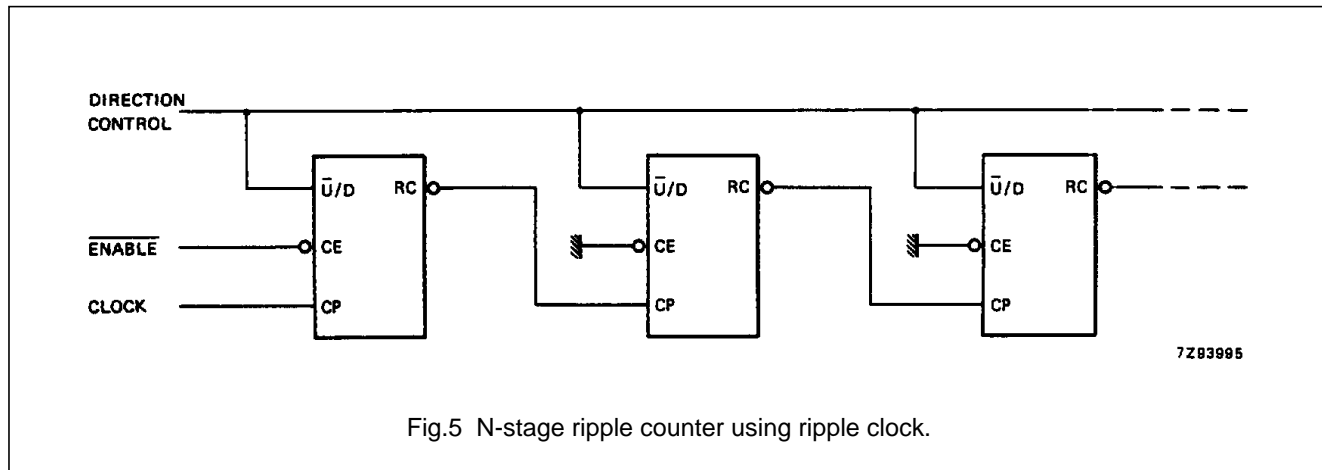
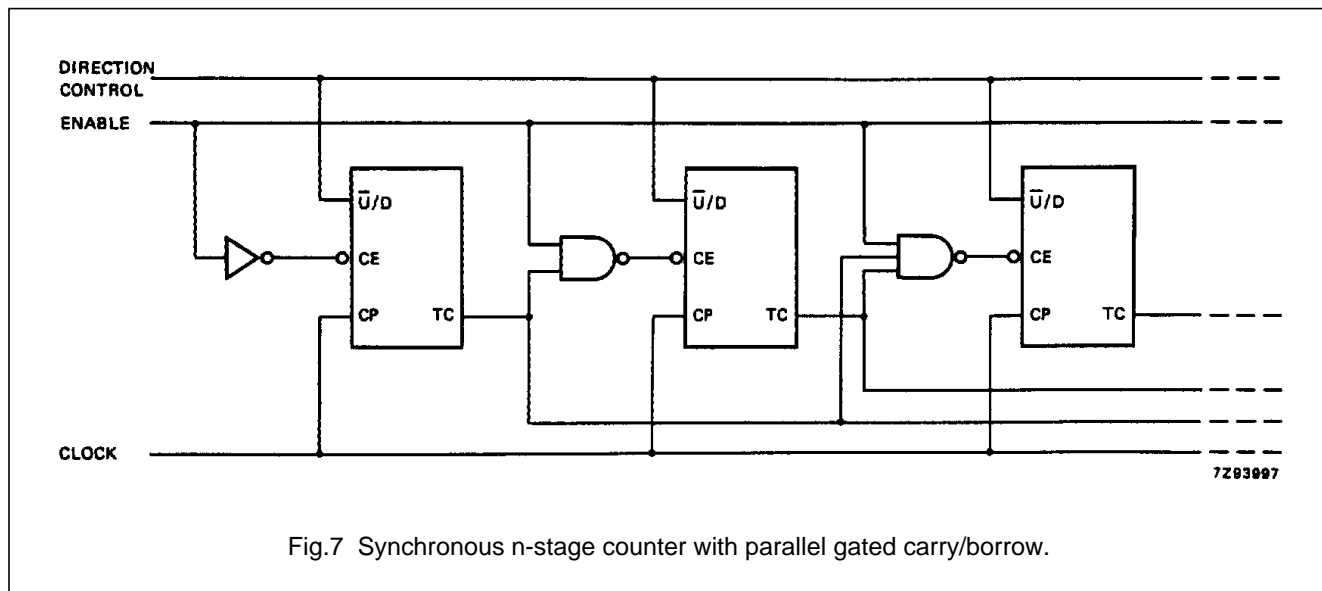

Fig.5 N-stage ripple counter using ripple clock.
Fig.7 Synchronous n-stage counter with parallel gated carry/borrow.
Overflow/underflow indications are provided by two types of outputs, the terminal count (TC) and ripple clock ( $\overline{RC}$ ). The TC output is normally LOW and goes HIGH when a circuit reaches zero in the count-down mode or reaches "15" in the count-up-mode. The TC output will remain HIGH until a state change occurs, either by counting or presetting, or until  $\overline{U/D}$  is changed. Do not use the TC output as a clock signal because it is subject to decoding spikes. The TC signal is used internally to enable the  $\overline{RC}$  output. When TC is HIGH and  $\overline{CE}$  is LOW, the  $\overline{RC}$  output follows the clock pulse (CP). This feature simplifies the design of multistage counters as shown in Figs 5 and 6.
In Fig.5, each  $\overline{RC}$  output is used as the clock input to the next higher stage. It is only necessary to inhibit the first stage to prevent counting in all stages, since a HIGH on  $\overline{CE}$  inhibits the  $\overline{RC}$  output pulse as indicated in the function table. The timing skew between state changes in the first and last stages is represented by the cumulative delay of the clock as it ripples through the preceding stages. This can be a disadvantage of this configuration in some applications.
In Fig.7, the configuration shown avoids ripple delays and their associated restrictions. Combining the TC signals from all the preceding stages forms the  $\overline{CE}$  input for a given stage. An enable must be included in each carry gate in order to inhibit counting. The TC output of a given stage is not affected by its own  $\overline{CE}$  signal therefore the simple inhibit scheme of Figs 5 and 6 does not apply.